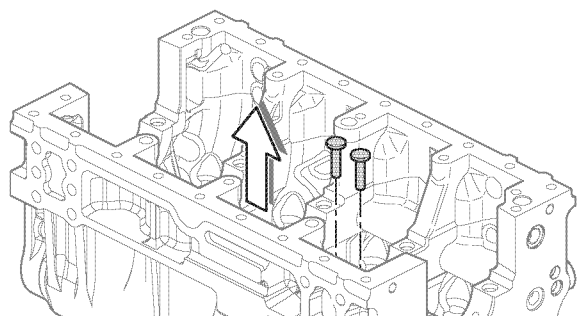

Figure 5-56
53. Remove the tappets from the tappet holes in the cylinder block (Figure 5-56).